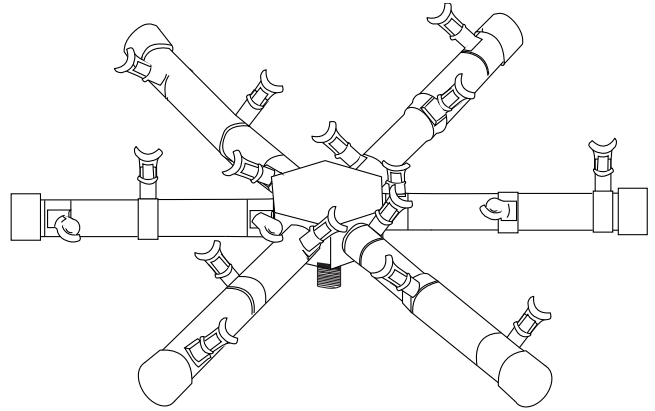

Fig. 5 Shows burner with nipple installed.
All Burning Spurs come ready to install and have a ½" male center nipple. The Burning spur must be installed as shown in Fig. 5 with center nipple facing downward. Ensure to seal each NPT fitting with thread tape or pipe compound.
Step 1: Install the nipple into the Pro Spur burner (Fig. 5).